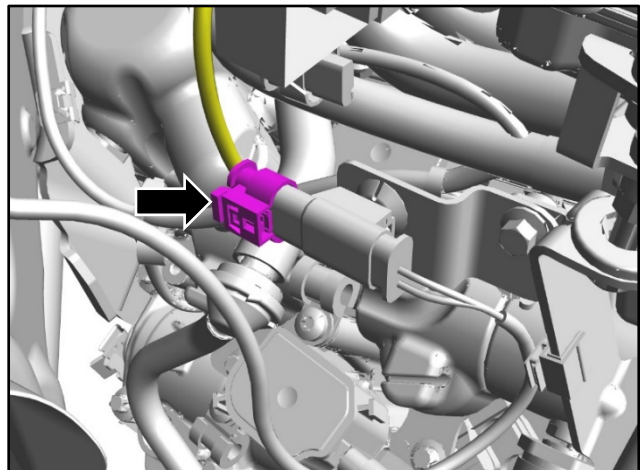

Figure 29
18. Connect the electrical connector (refer to Figure 29).